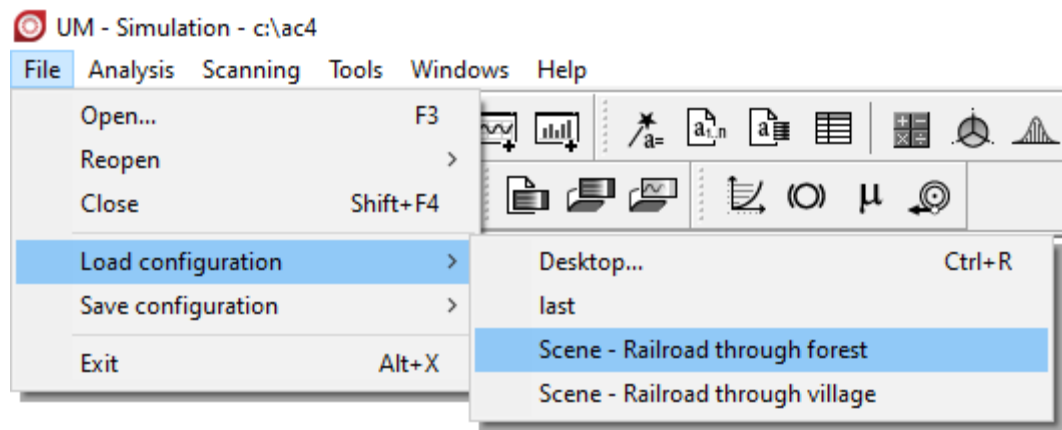

Figure 1.2. Preliminarily prepared configurations for the AC4 model
- AC4 rail car model includes two configurations with scenes: [**Scene - Railroad through village**] and [**Scene - Railroad through forest**]. To have a look at them run UM Simulation program, load the model from the following folder *{UM Data}\Samples\Rail_Vehicles\ac4*, then using the **File| Load configuration** menu item load configurations listed above, see Figure 1.2.